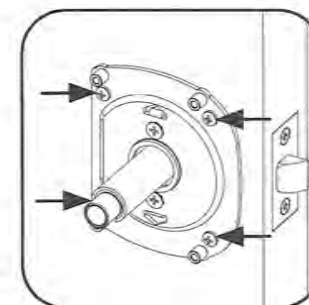

Figure 8
2.5: Insert the four 1" (25mm) long Pan Head Wood Screws through Mounting Plate into the door. These screws ensure the Pürleve Handle will not rotate over time. If you require a pilot hole for these screws, make a 7/64" (2.78mm) hole. (**Fig. 8**)